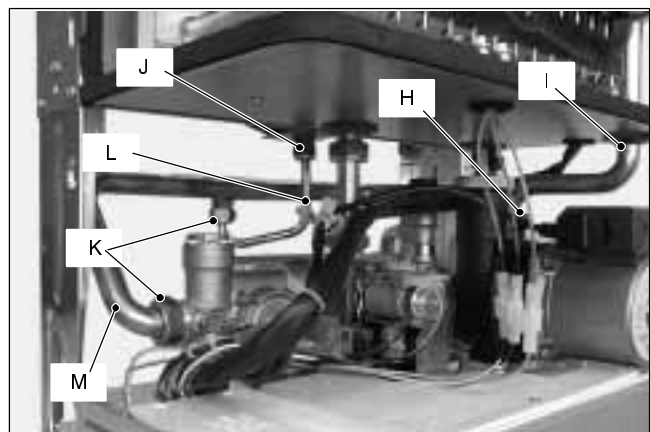

Fig. 12
- 5 Remove the fork *H* (Fig. 12), lift the pipe *I* and rotate it right then move it downwards freeing it from the heat exchanger connection.